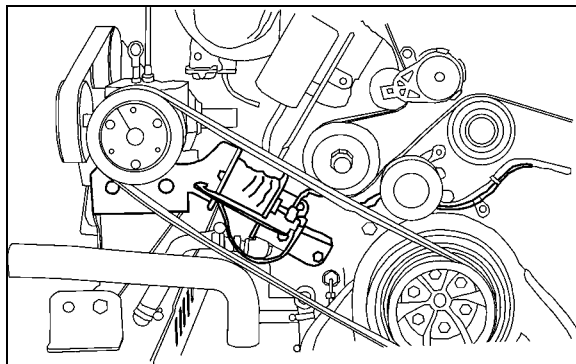

FIGURE 19: BELT TENSIONER 01169
*For proper operation of the air bellows, adjust the **upper** tensioning bracket to provide a 1/4 inch (7 mm) gap between stopper and bracket with the pneumatic system under normal pressure and the air pressure regulator set as per paragraph #3 (Fig. 19).*